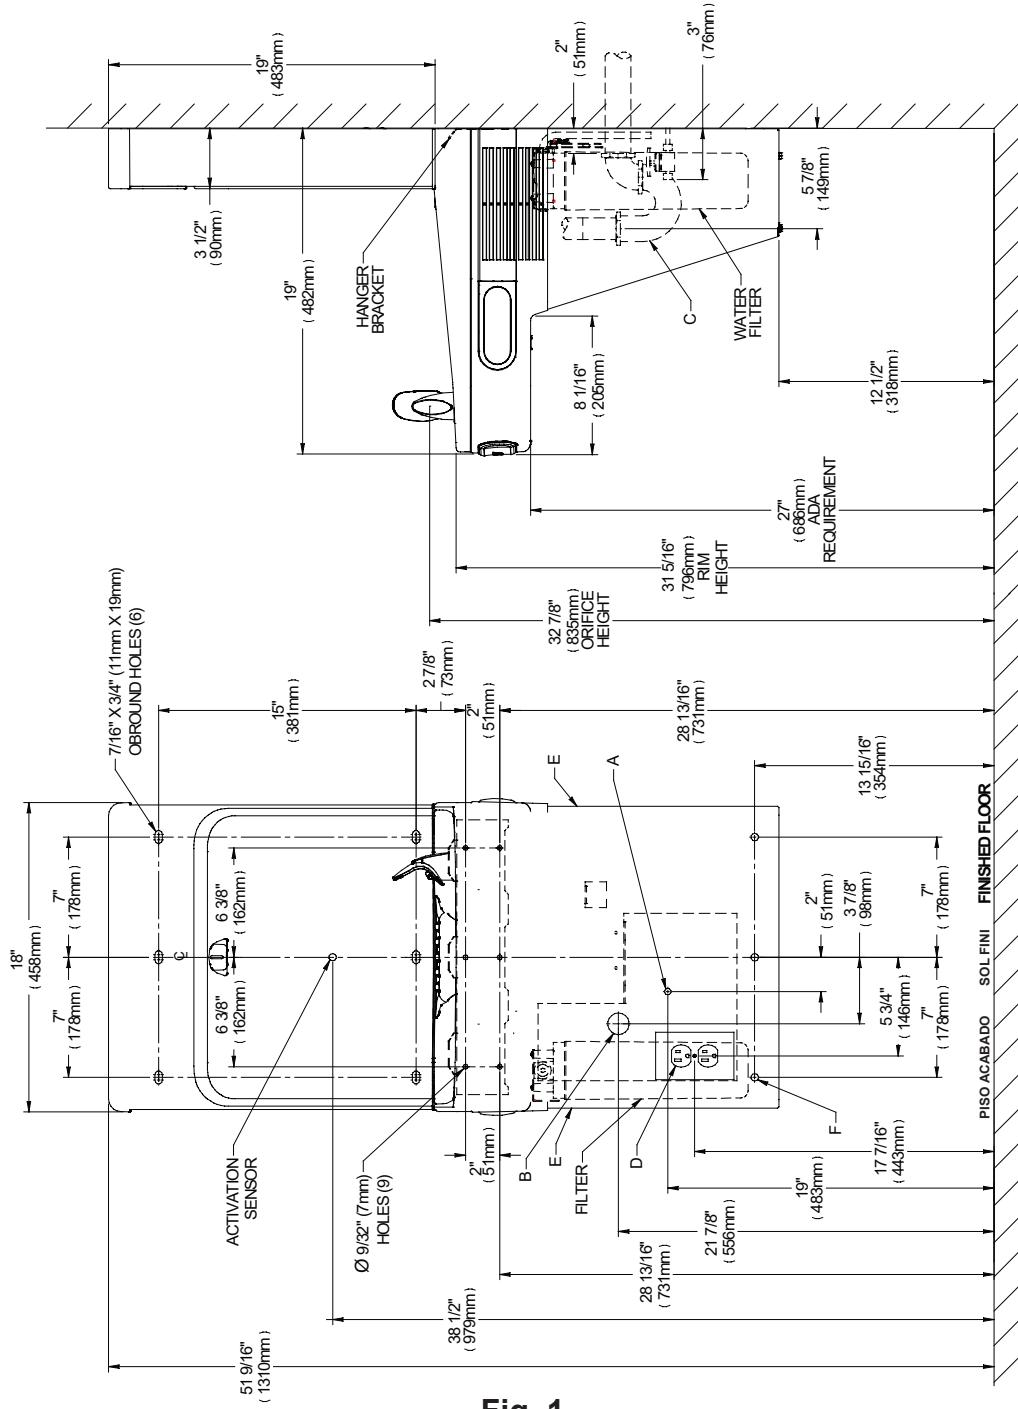

Fig. 1
1) Remove hanger bracket fastened to back of cooler by removing one (1) screw.
2) Mount the hanger bracket as shown in Figure 1 (Pg. 2).
3) Hang the cooler on the hanger bracket. Be certain hanger bracket is engaged properly in the slots on the cooler back as shown in Figure 1 (Pg. 2).